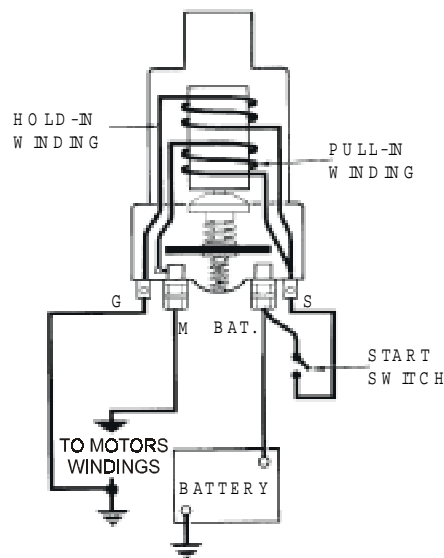

Fig. 3.14 Internal Solenoid Circuit ("G" and "S" Terminals Moved to Clarify Illustration)
A basic solenoid circuit is shown in Fig. 3.14. Solenoids may differ in appearance but can be checked electrically by connecting a battery of 24 V a switch, and an ammeter to the two solenoid windings. With all leads disconnected from the solenoid, make test connections as shown to the solenoid switch terminal and to the second switch terminal, (G), to check the hold-in winding (Fig. 3.15). Use the carbon pile to decrease the battery voltage to the value specified in Service Bulletin IS-188 and compare the ammeter reading with specifications. A high reading indicates a shorted hold-in winding, and a low reading excessive resistance. To check the pull-in winding connect from the solenoid switch terminal (S) to the solenoid motor (M or MTR) terminal (Fig. 3.16).